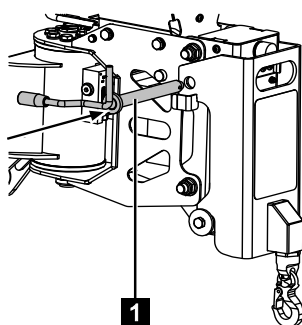

Fig. 163
3. Insert the locking pin (Fig.163/1).